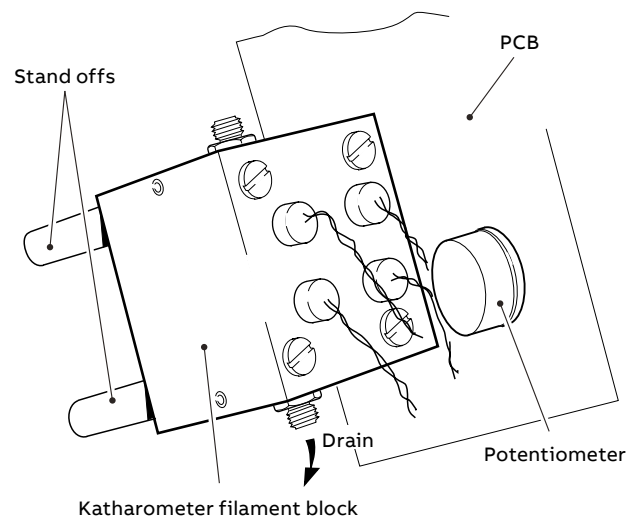

Figure 22 Removing liquid from the katharometer filament block
- 6 Remove the katharometer filament block assembly from the case and tilt at 45 ° to the horizontal to enable any liquid to drain from the measurement block – see Figure 22.